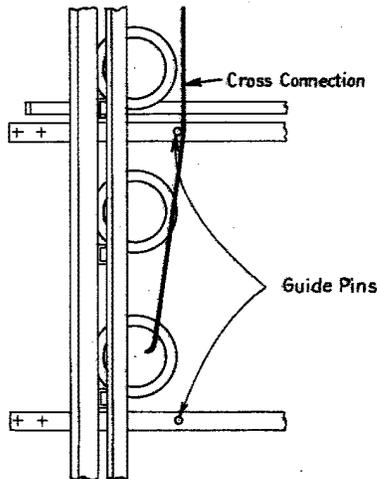

Fig. 1 – Position of Cross Connection behind Guide Pin Where Run between Shelves at Combination Distributing Frames
5.13 On combination distributing frames, the horizontal to protector jumpers should be run to the left of the pins, where provided, between verticals; the horizontal to vertical, and horizontal to horizontal terminal strip jumpers should be run to the right of the pins facing the vertical side. The object is to draw the horizontal to horizontal jumpers to the right side of the distributing rings to avoid congestion. (See Fig. 1.)